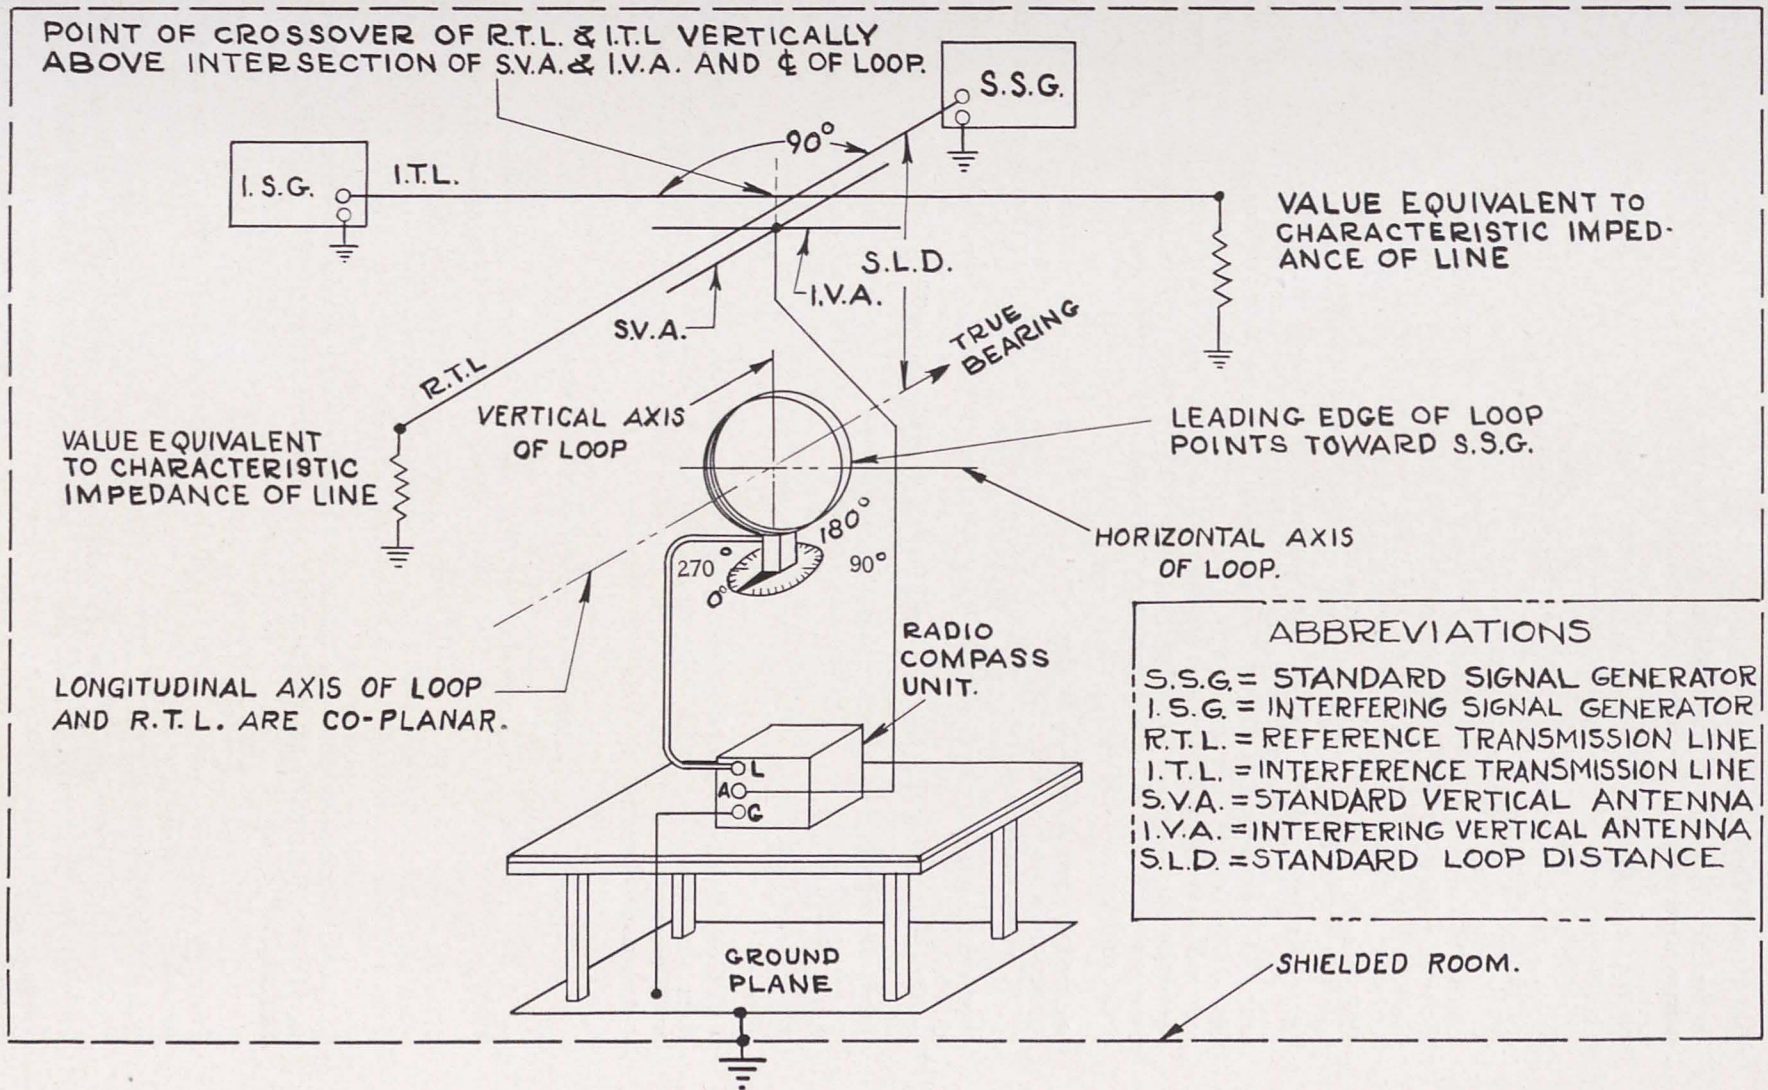

Figure 24—Standard Test Set-up for Radio Compass
- (6) Loop Alignment.—The alignment of the loop circuit should only be attempted with adequate checking equipment including a transmission line test setup. The alignment affects the sensitivity and the uniformity of response.
- (a) Standard Method.—(Refer to Radio Compass SCR-242-A Alignment, paragraph 6-6.) Use the Standard Test Set-up (Figure 24) and the Standard Test Conditions of paragraph 6-5. Set sensitivity control at maximum and tune the radio compass unit to a 1,475-kc, 1,000-uv/m, 400-cycle, 30% modulated signal. Turn the loop to 15 degrees off-course and lock in position. Adjust the compass output control for approximately half-scale indicator deflection. Tune in on 800-kc, 1,000-uv/m, 400-cycle, 30% modulated signal and observe the indicator pointer deflection. Continue the procedure of tuning back and forth several times between 800 kc and 1,475 kc, each time readjusting C2 at 1,475 kc until the indicator pointer deflections obtained at 1,475 kc and 800 kc are of equal amplitudes and correct sensing.